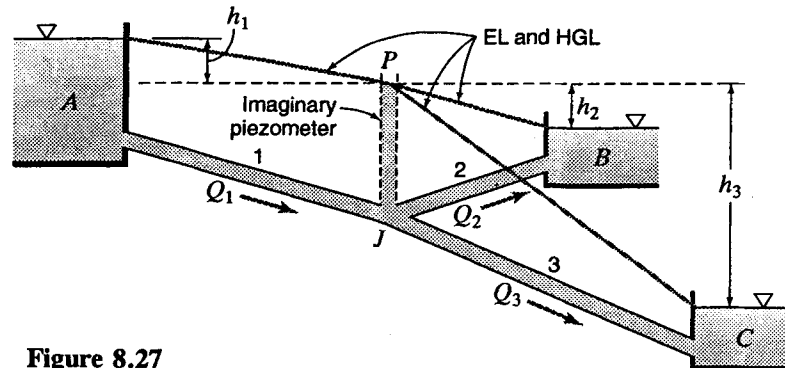

Figure 8.27
8.89 Suppose, in Fig. 8.27, that pipes 1, 2, and 3 are 3000 ft of 24 in, 1000 ft of 18 in, and 4000 ft of 16 in, respectively, of new welded-steel pipe. The surface elevations of reservoirs A, B, and C are 120, 75 and 0 ft, respectively. The water temperature is 60°F. Using a basic scientific calculator only, find the flow in all pipes.